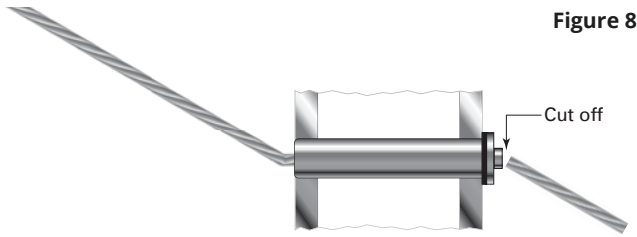

Figure 8
4. Cut the cable flush with the hole in the back of the fitting using a cut-off wheel. (Figure 8)